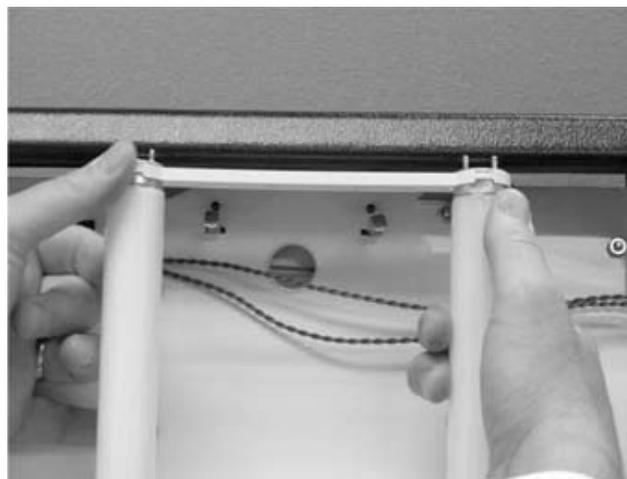

Figure 12.
- C. Push forward on both tabs with thumbs while simultaneously pulling on lamp (see Figure 12), only pull lamp far enough to be out from under the inside of the merchandiser.